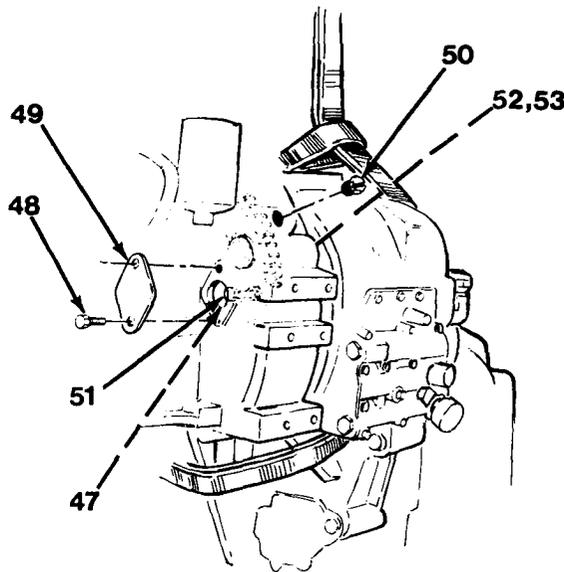

Figure 6-7
7. Install 12 lockwashers (53) and M10-1.50 x 35 mm capscrews (52, Figure 6-7) to transmission and flywheel housing.
9. Remove guide stud. Install 12 capscrews (47) through access hole (51) through flywheel into drive plate. Hand tighten all the way around. Torque capscrews (47) to 31 ± 2 lb-ft (42 ± 3 N•m).
10. Recheck crankshaft end play and compare measurement with what was observed in step 2. No end play can mean crankshaft has been preloaded. Do not proceed until the reason for preload has been determined and corrected. When satisfactory, replace cover plate (49), two capscrews (48) and plug (50).